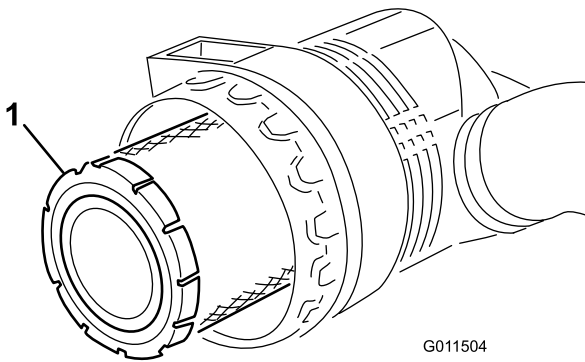
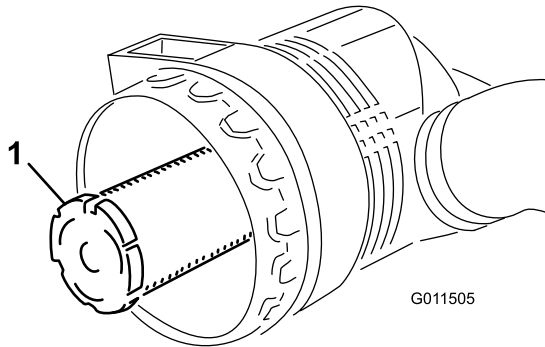

Figure 47
Figure 48
3. Remove the primary filter (Figure 47). Cleaning of the used element is not recommended due to the possibility of damage to the filter media. Inspect the new filter for shipping damage, checking the sealing end of the filter and the body. Do not use a damaged element. **Do not** remove the safety filter (Figure 48).
Important: Never attempt to clean the safety filter (Figure 48). Replace the safety filter with a new one after every three primary filter services.
4. Replace the primary filter (Figure 47).